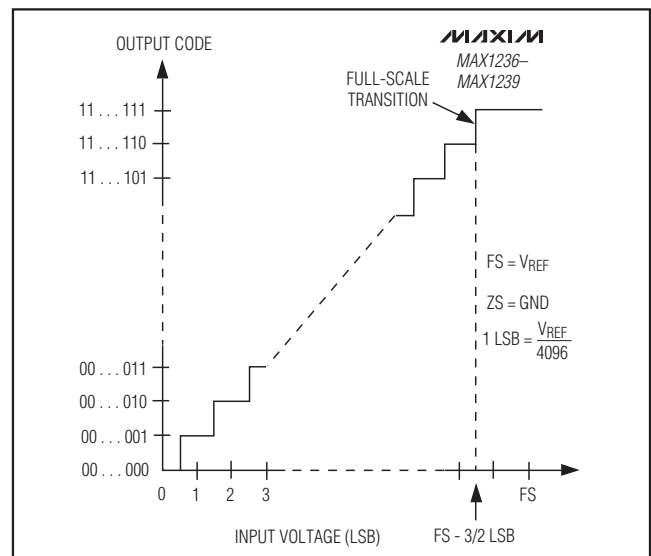

Figure 12. Unipolar Transfer Function
Output data coding for the MAX1236–MAX1239 is binary in unipolar mode and two's complement in bipolar mode with 1 LSB = (VREF/2N) where “N” is the number of bits (12). Code transitions occur halfway between successive-integer LSB values. Figures 12 and 13 show the input/output (I/O) transfer functions for unipolar and bipolar operations, respectively.